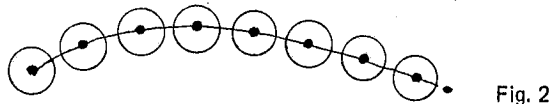

Fig. 2
3. **Drill-** Using drill bit provided, drill holes skipping every other punch mark. (Fig. 2)